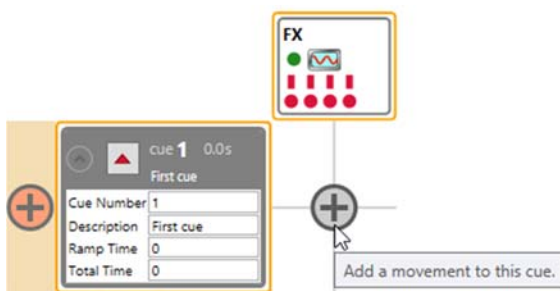

Figure 228
1. Click the “+” button in the **Cue Grid** correct associated with the Stagehand FX and Cue you wish to edit (Figure 228).